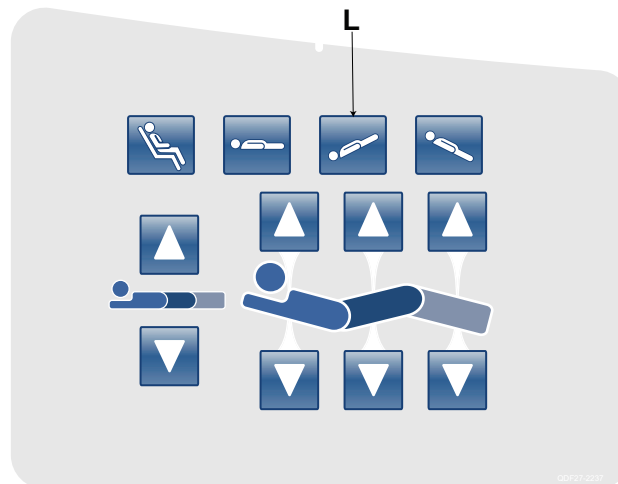

Figure 13 – Trendelenburg
14. To place the bed at +12 degrees Trendelenburg, press the **Trendelenburg (Foot Lift Up) (L)** button (Figure 13). Verify +12 degrees +/- 0.1 with the inclinometer you placed on the litter frame in step 11.